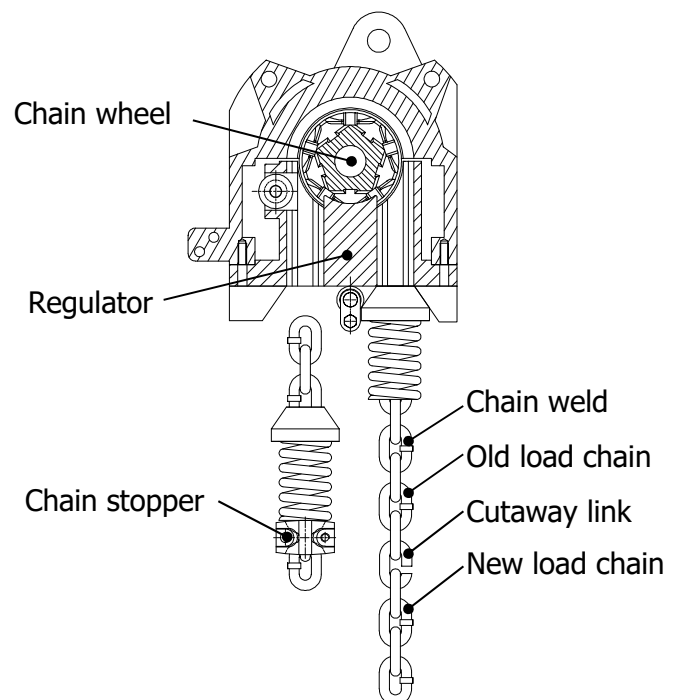

Fig. 25
- 2) Using an abrasive wheel, etc., cut a portion of the second link from the end (i.e. the first flat link) as shown in (Fig.25).